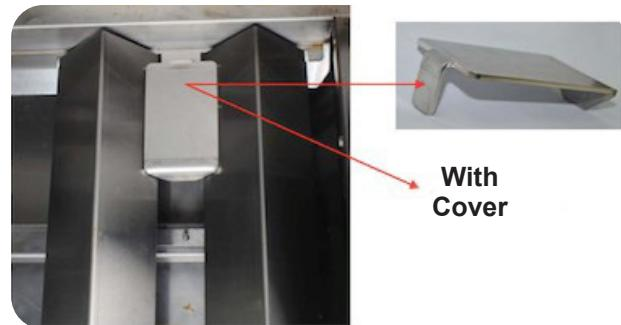

Fig. 8-2
3. Place the cover over burner, sitting properly into the slots on the rear support as shown in Fig. 8-2.